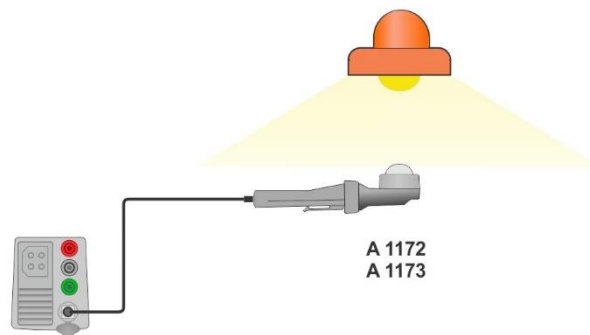

Figure 7.100: LUXmeter probe positioning
- › Take the position of LUXmeter probe, see **Figure 7.100**.